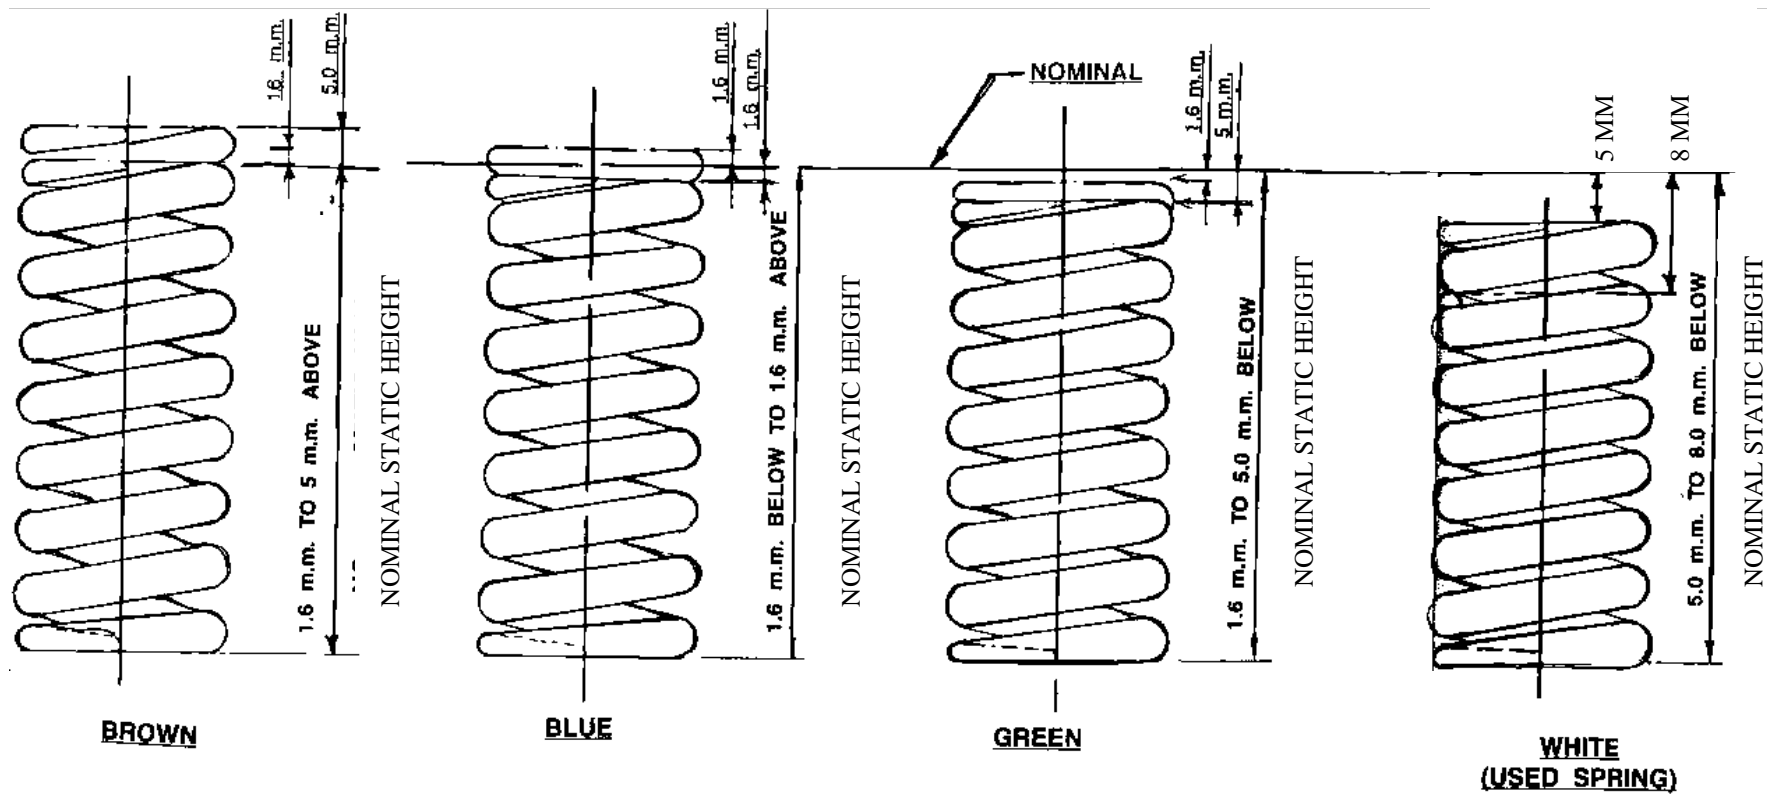

FIGURE 4.1
1. The inspection of suspension springs (both primary as well as secondary) should be improved and should be strictly done as per drawings and specifications for every lot of procurement and during changing. The working height and colour matching of suspension spring is shown in figure 4.1. The details for testing of WAP1/ WAP4 springs are given below: